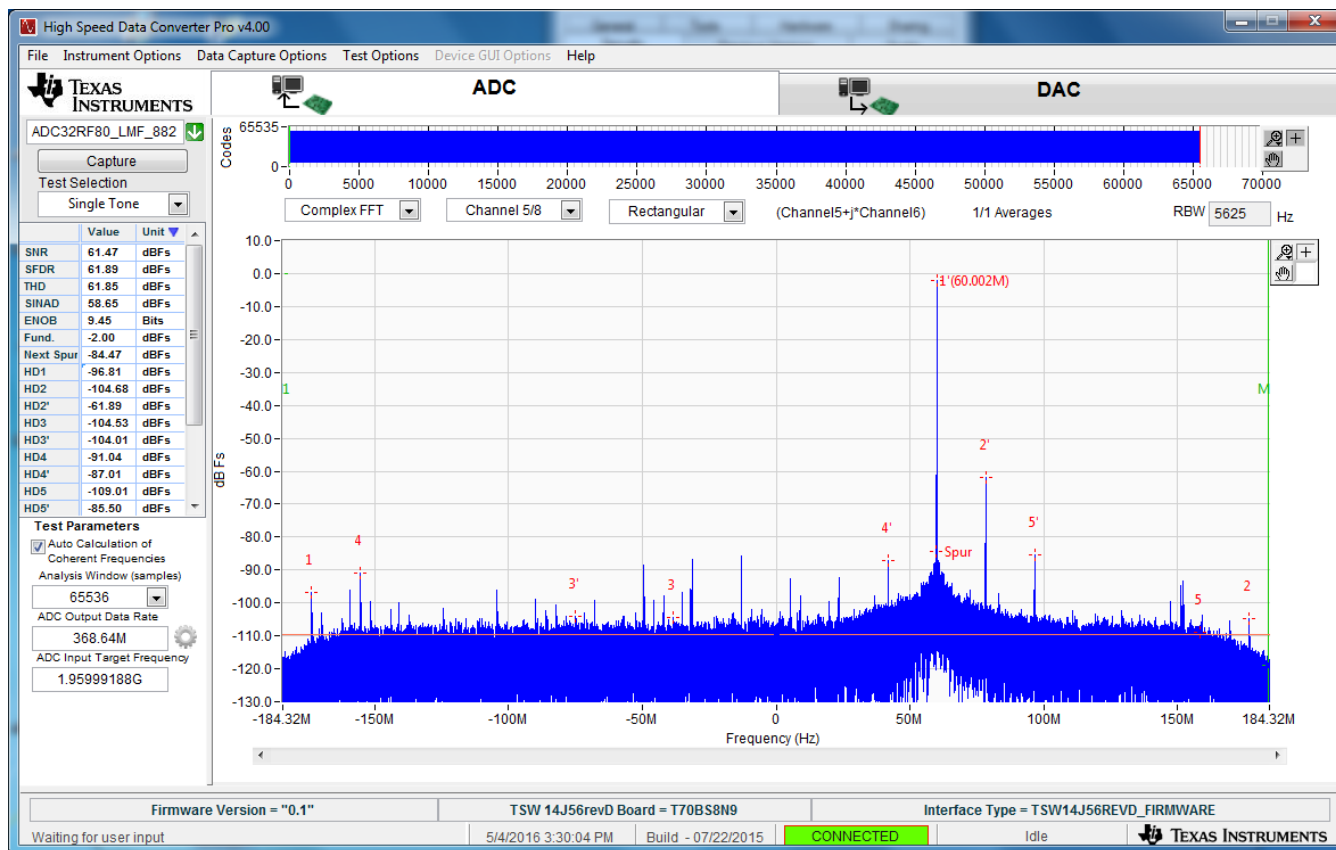

Figure 27. Example Capture From Channel A – 8x Decimation Mode
11. The result should match the example capture in Figure 27.